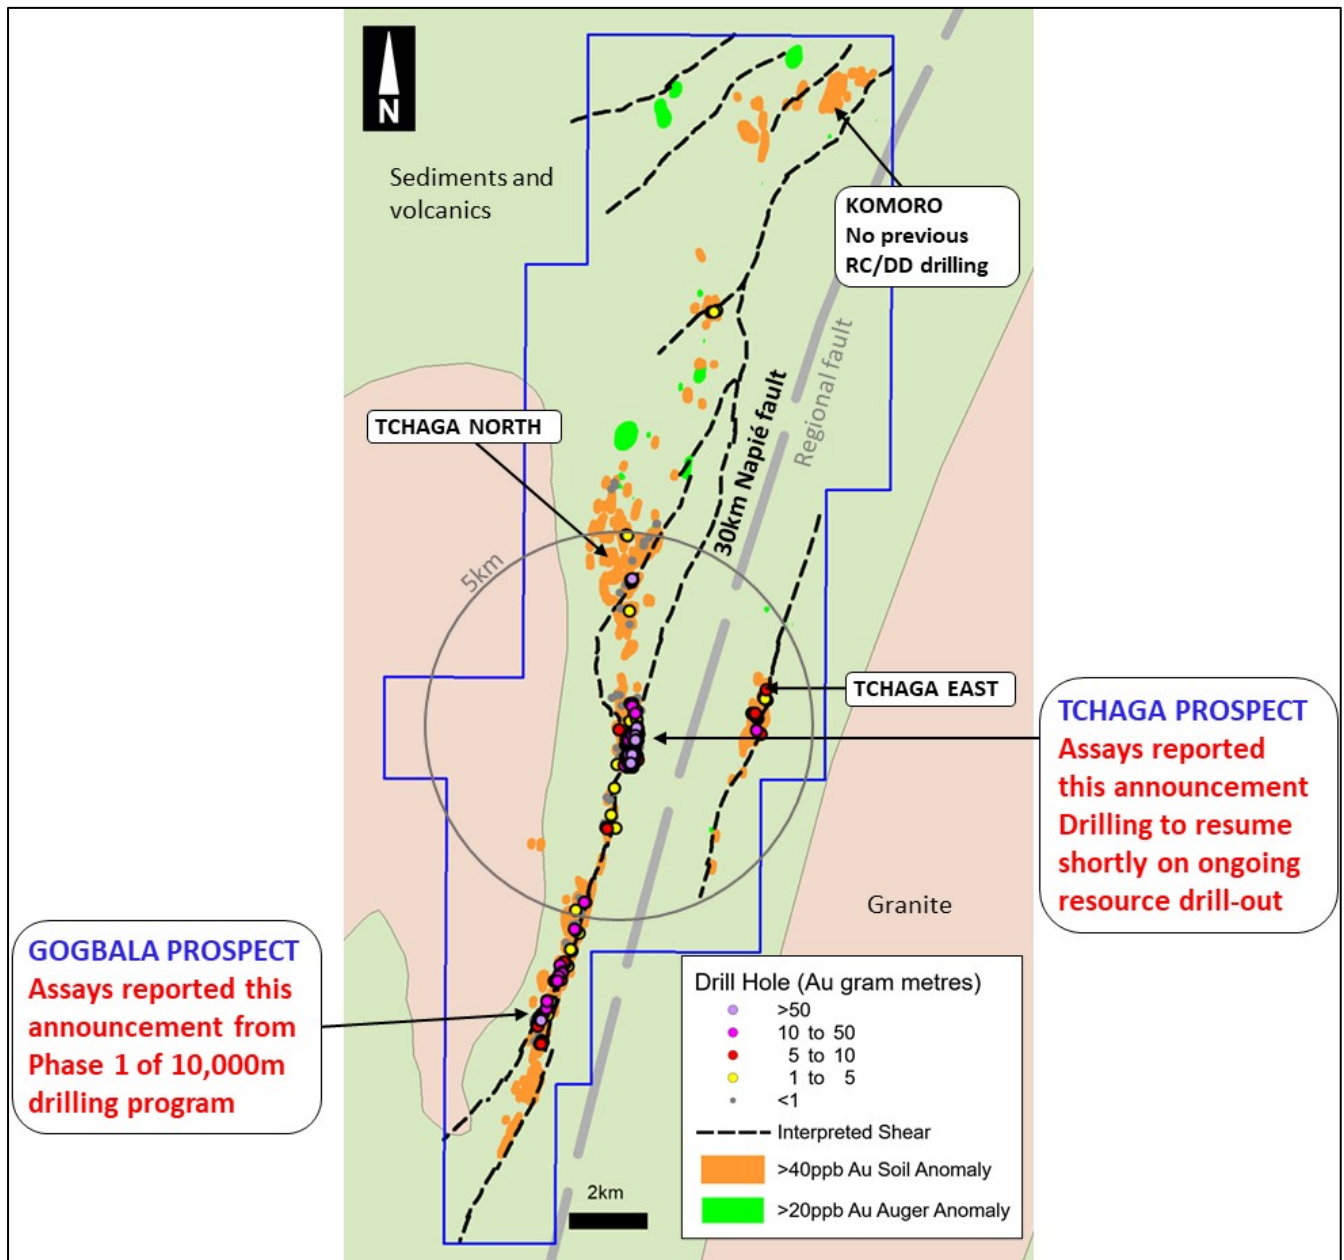

Figure 6: Napié Project – Prospect location map showing Napié Fault
**Mako Gold Limited** (“Mako” or “the Company”; ASX:MKG) is pleased to advise that it has received the first batch of assay results from the 10,000m reverse circulation (RC) drilling program at the Gogbala Prospect and six diamond drill (DD) results from the Tchaga Prospect, both at the Company’s flagship Napié Project in Côte d’Ivoire. Gogbala and Tchaga are located on the same +23km soil anomaly and coincident 30km-long Napié Fault (Figure 6).
Continuation of drilling at the Tchaga deposit, along with Gogbala, aims to **delineate multi-million-ounce deposits across the Napié Permit** along the 30km Napié Fault (Figure 6).